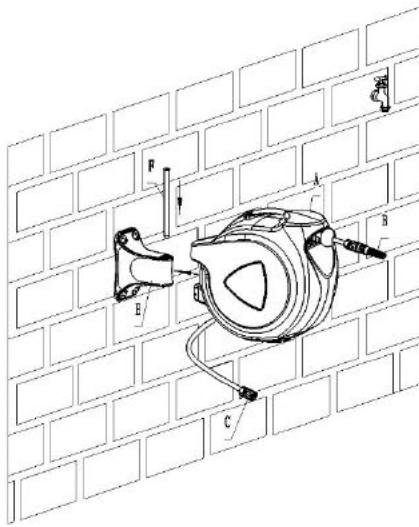

Fig. 6
4. Connect the reel to the mounting bracket with metal tube. (Fig. 6)